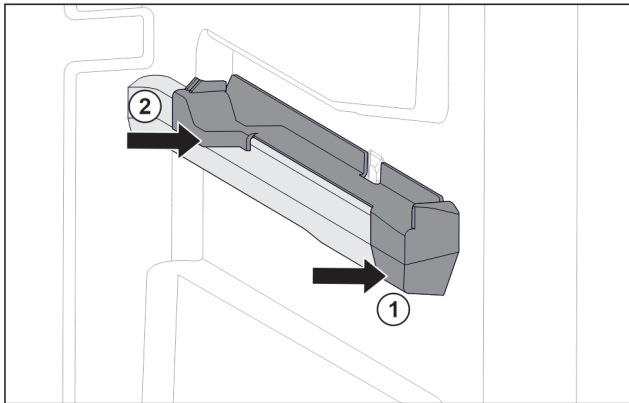

Fig. 150 Attachment on the right moulded rib
- ▶ Position attachment on moulded rib at the front. *Fig. 150 (1)*
- ▶ Press on attachment at the back. *Fig. 150 (2)*